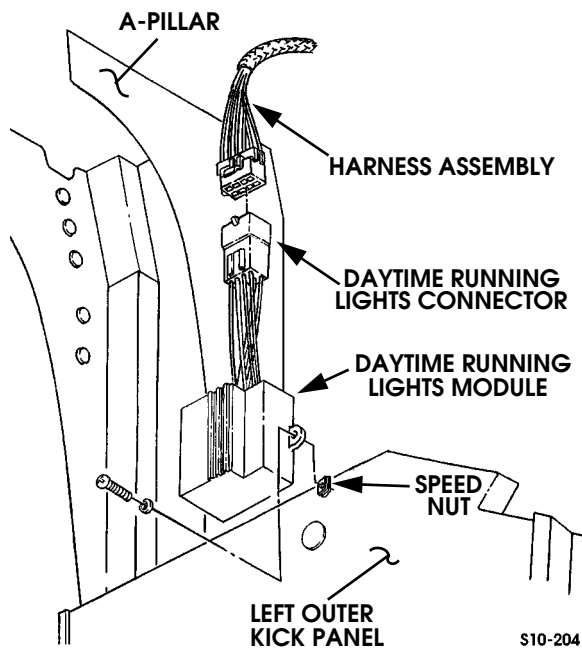

Figure 10-178: Daytime Running Lights Module
1. Disconnect the Daytime Running Lights (DRL) connector from the harness assembly (Figure 10-178).
1. Secure DRL module to kick panel with two screws, washers, and nuts (Figure 10-178).